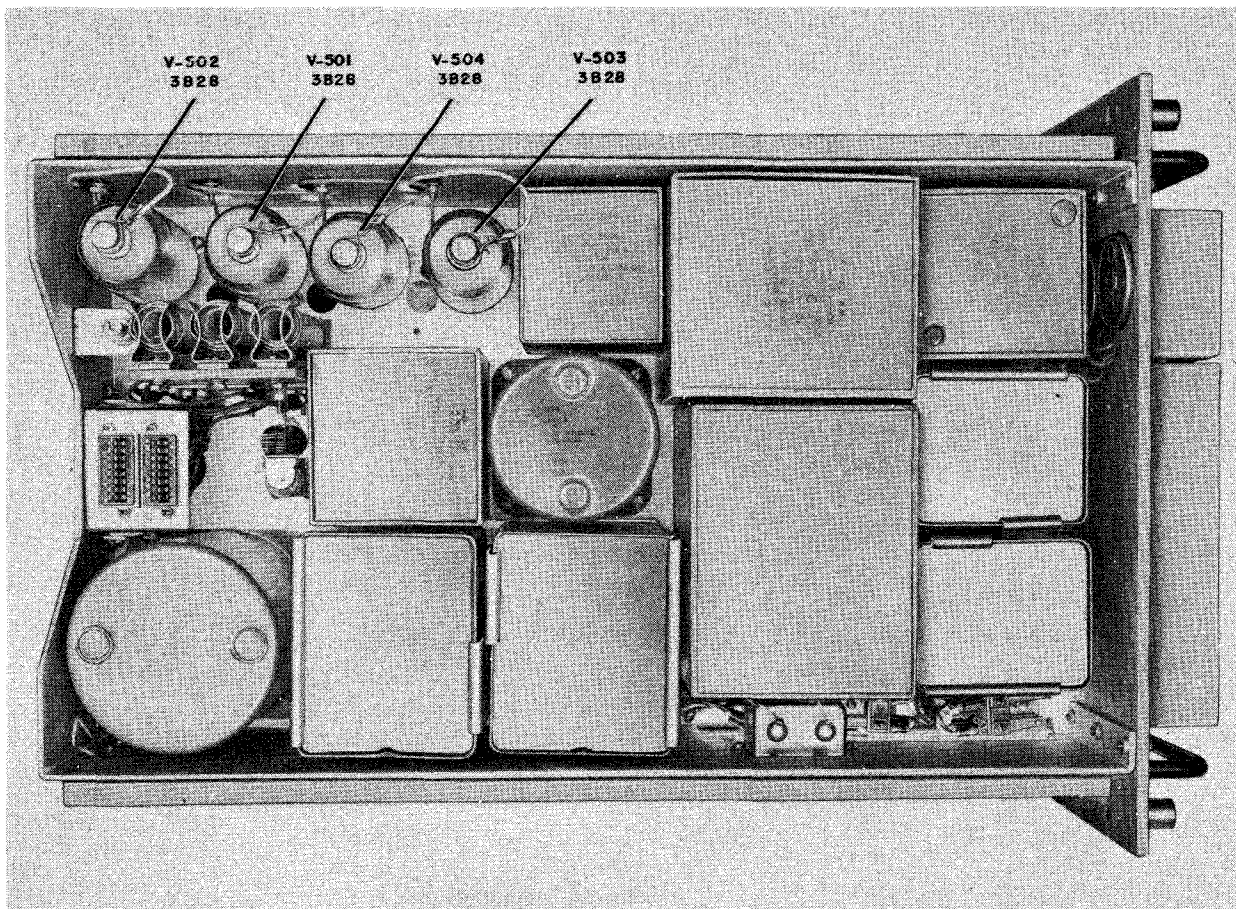

Figure 5-5. Power Supply PP-1095/SRT (MVPS), Top View, Tube Locations
1.	Power Supply PP-1095/SRT (MVPS). (See figure 5-5.)